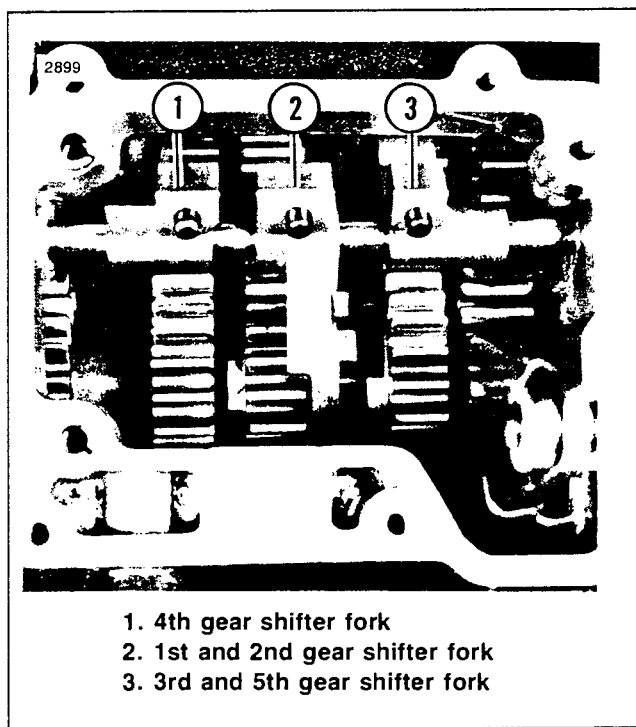

Figure 3. Transmission Forks Position
2. See Figure 3. Insert shifter fork (1) into the slot of the mainshaft 1st gear. Insert shifter fork (2) into the slot of the countershaft 3rd gear and insert shifter fork (3) into the slot of the mainshaft 2nd gear.